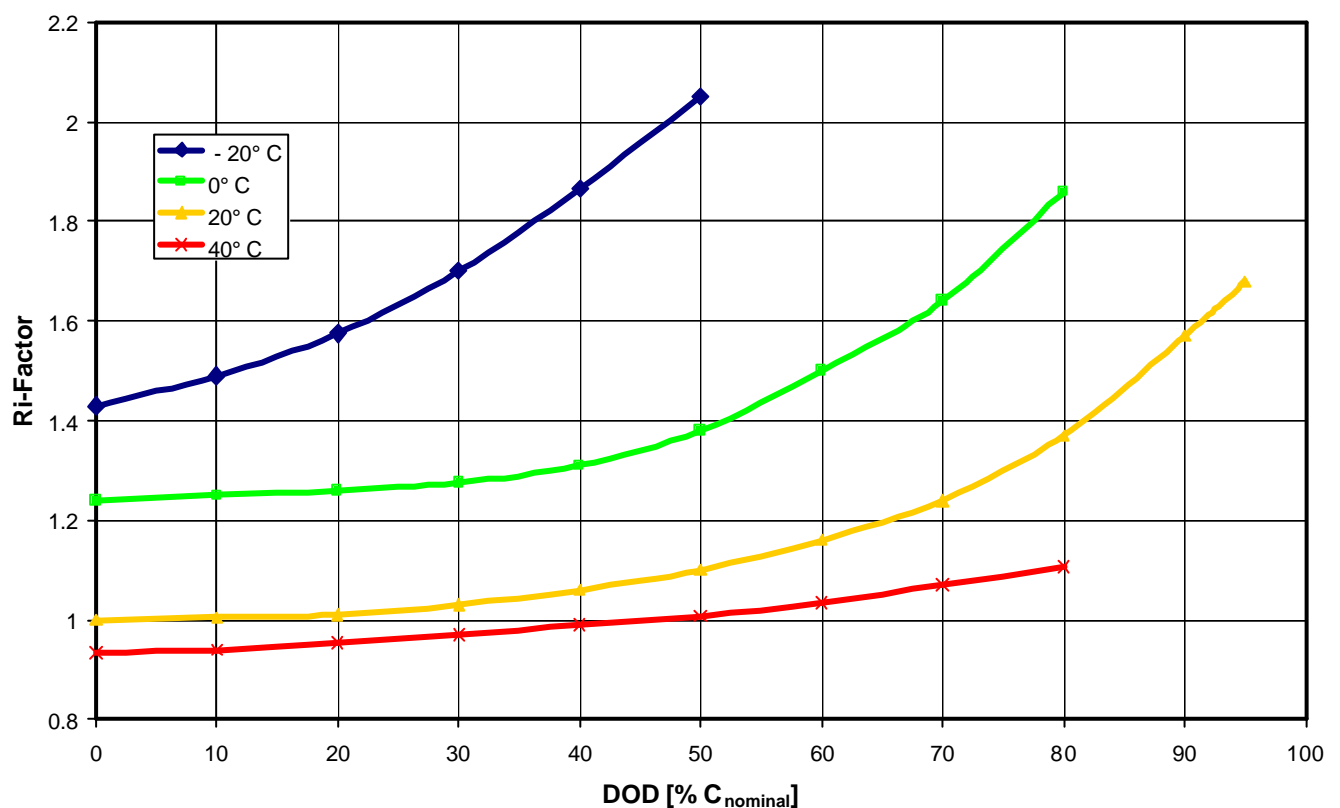

Fig. 18: Internal Resistance R_i vs. Depth of Discharge (DOD) and Temperature
- The internal resistance R_i varies with depth of discharge (DOD) as well temperature, as shown in fig. 18 below. Hereby, the R_i -value at 0% DOD (fully charged) and 20° C, respectively, is the base line (R_i -factor = 1).